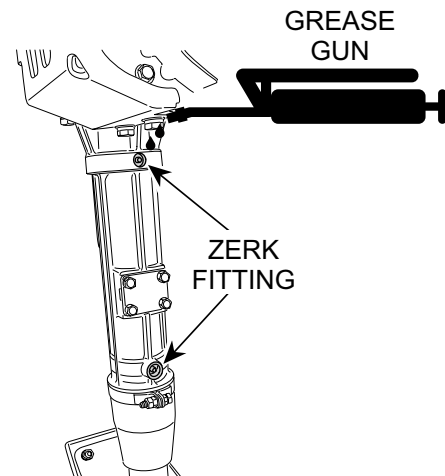

Figure 23. Grease Fittings (Main Springs)
- The rammer main springs (Figure 23) should be lubricated with **five shots** of grease with a hand grease gun after each eight (8) hours of use.